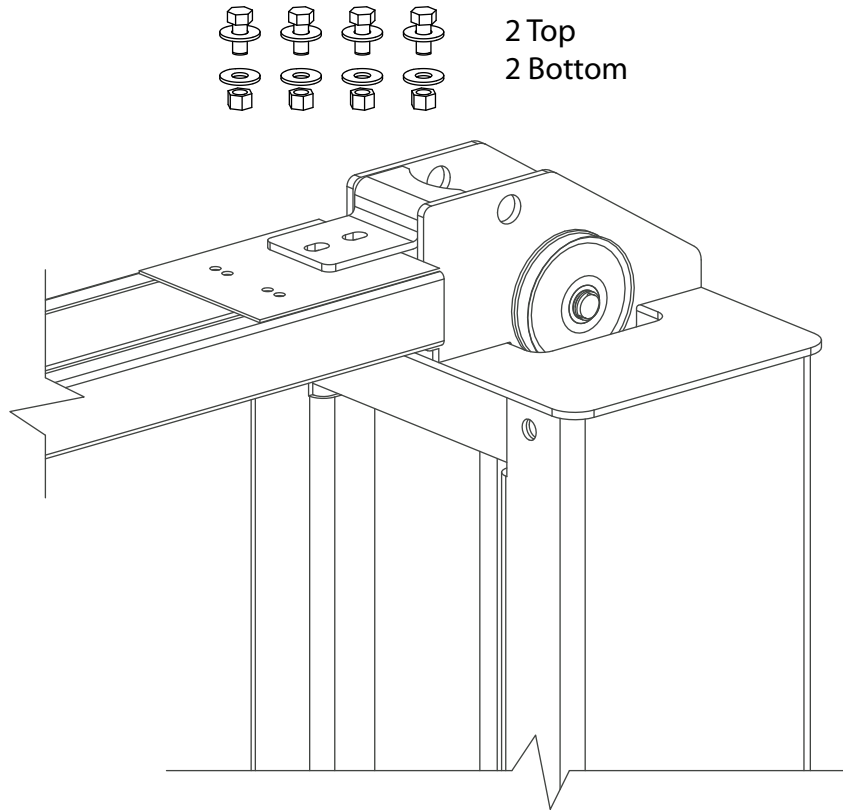

Figure 11
* Raise the overhead beam and secure it to the upright using two 3/8 x 1-1/2 bolts, washers and nuts (typical both sides), Figure 11.